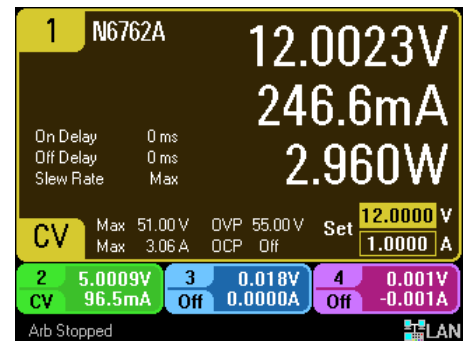

Figure 4 – Single Output View (1)
6. Press the “Meter View” key with **Output 1** selected to see more information as described above in THE METER VIEW section. You will see something similar to Figure 4.